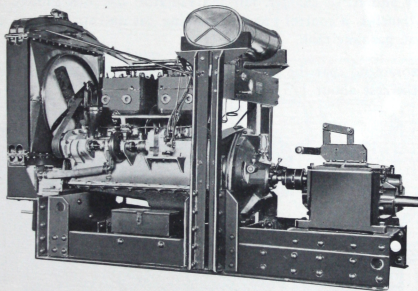
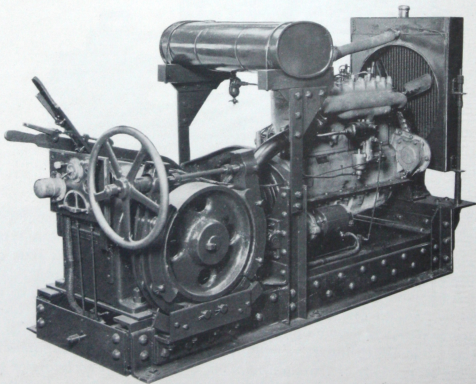

FIG. 1 SPUR GEAR UNIT
FIG. 3 BEVEL GEAR UNIT
Gasoline engine units as shown in this bulletin are complete self contained plants for operating a movable bridge and may be used as a prime mover or to augment electric drives. This unit is designed especially for bridge work and to meet the requirements of the A.R.E.A. specifications for movable bridges. It is of very rugged construction with heavy steel subbase, extra large clutch and a completely enclosed reversing gear case. All units are complete with gasoline tank, radiator, controls and starting motor over 30 H. P., in fact the unit is equipped to place on a bridge bolted down ready for use. The engine and reversing unit are connected with a flexible coupling. Unit shown in Fig. 1 is arranged for remote control; brake and reversing levers as well as spark and gas control is located on another floor.
**REVERSING GEAR CASE:** These cases are made in two types, the spur gear type with driving shaft parallel to the engine shaft as shown in Fig. 1 and the bevel gear type as shown in Fig. 3 where the driving shaft is perpendicular to the engine shaft. Six sizes of both types are built as shown on sheets 3 and 4. The housing is cast steel with bronze lined bushings, the gears are cast steel and are designed for a low operating tooth pressure. The working parts are self lubricating once the case is properly filled with oil. The speed reductions in the gear cases of the various units are shown on the following sheets. These speeds are the same forward and reverse. The clutch for reversing is of the step type and will not go out of mesh due to an overhauling load. *One of the high points of this unit is the enclosing of the high speed gears and running them in oil.*
**BRAKES:** These units are not supplied with brakes unless specified. Fig. 3 shows the application of a hand wheel type of brake. The lever and weight type can also be supplied. Brake wheel is made of cast steel and brake shoes are lined with Raybestos. With the weight type of brake the exact braking effort can be predetermined.